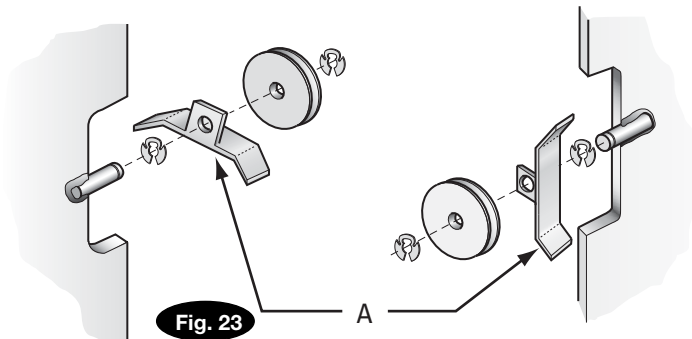

Fig. 23 Detail
- Install latch cable sheave, sheave covers, and retaining rings in upper slot of power unit column as shown, Fig. 23.